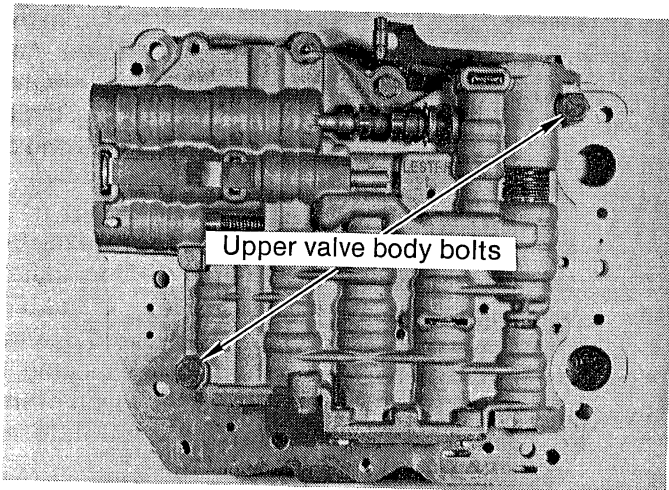

FIGURE 4
STEP 6. Lay the valve body on the bench with the filter side down. Remove the two upper 1/4" bolts with a 7/16" wrench. (See Fig. 4)
STEP 19. Turn valve body over and install the two long 1/4" bolts. (See Fig. 4) Tighten to 80-120 in.-lbs. Also tighten all valve body and end plate bolts to 20-40 in.-lbs. in this sequence: one or two long hold down bolts, eight valve body bolts, end plate bolts.